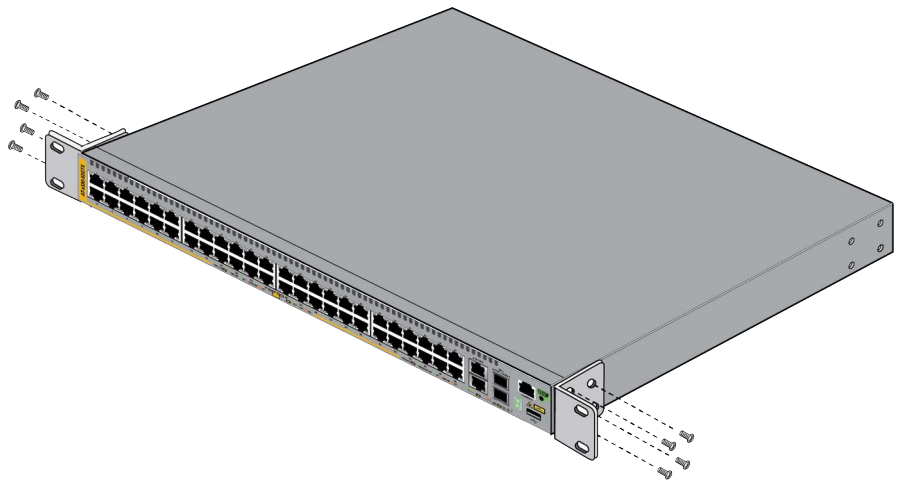

Figure 48. Attaching the Equipment Rack Brackets to the x330-52GTX Switch
2. Attach the wall/equipment rack brackets to the sides of the switch in the selected position, with the eight M4x8mm screws included with the switch. Figure 48 shows the brackets installed so that the front of the switch is flush with the front of the equipment rack.